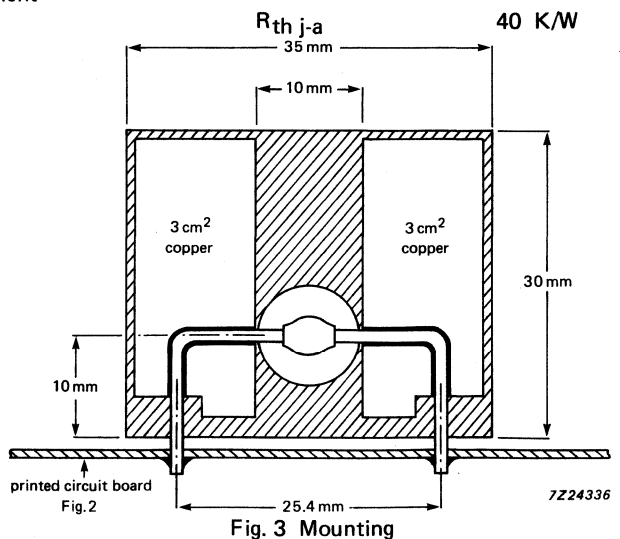

Fig. 3 Mounting
3. Thermal resistance from junction to ambient when mounted as shown in Fig. 3